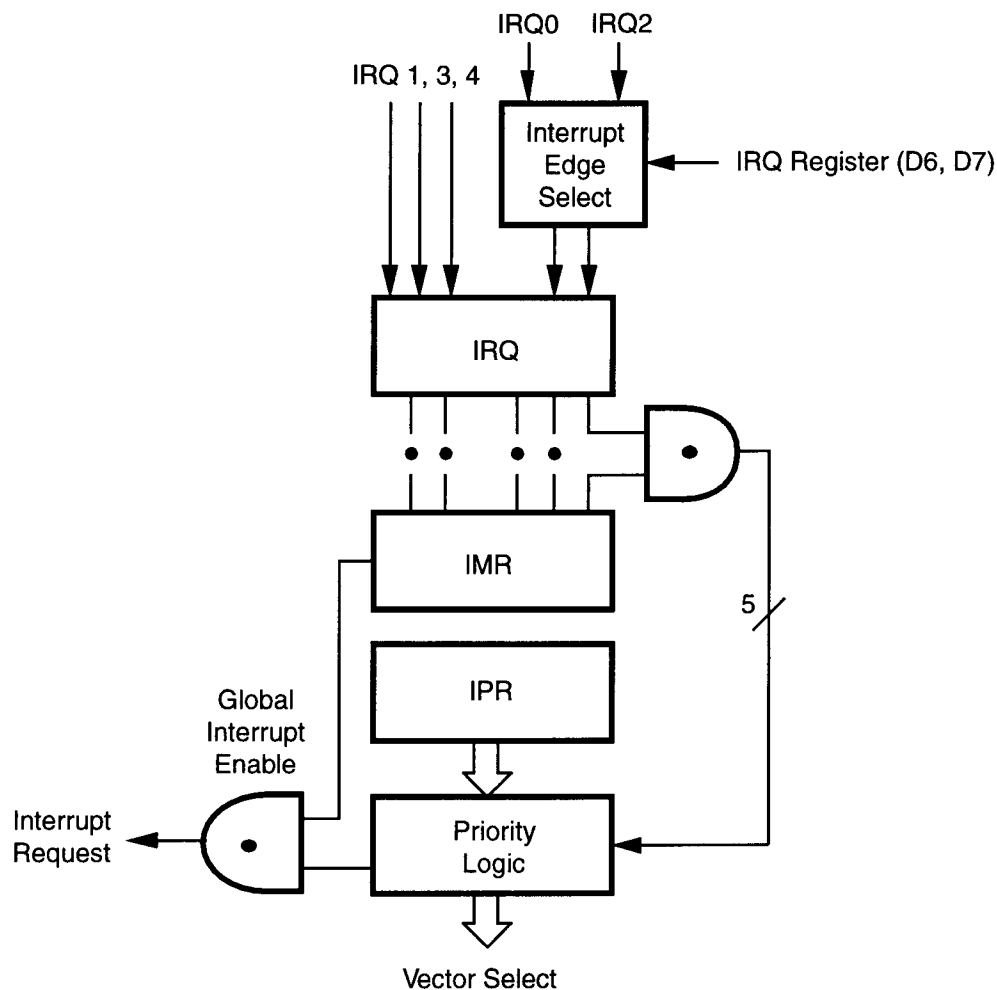

Figure 33. Interrupt Block Diagram
**Interrupts.** The Z86172 has five different interrupts. The interrupts are maskable and prioritized (Figure 33). The five sources are divided as follows: three sources are claimed by Port 3 (lines P33–P31), while the remaining two are held